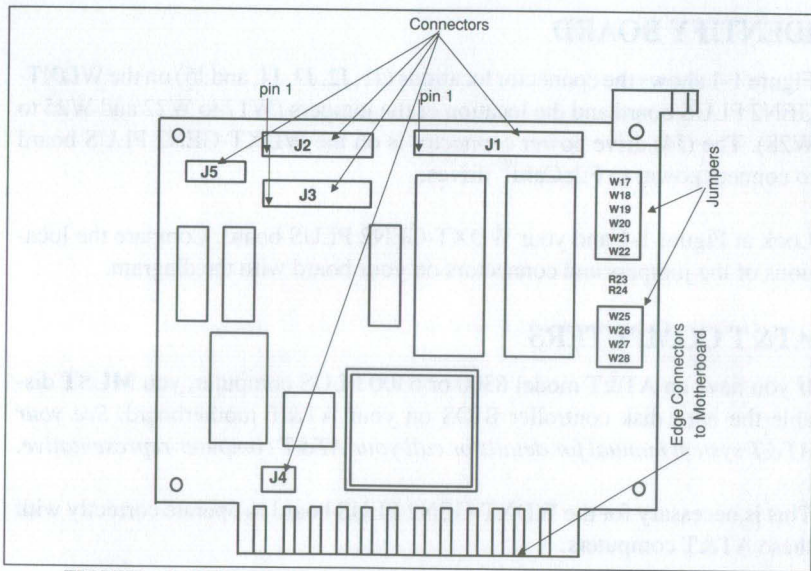
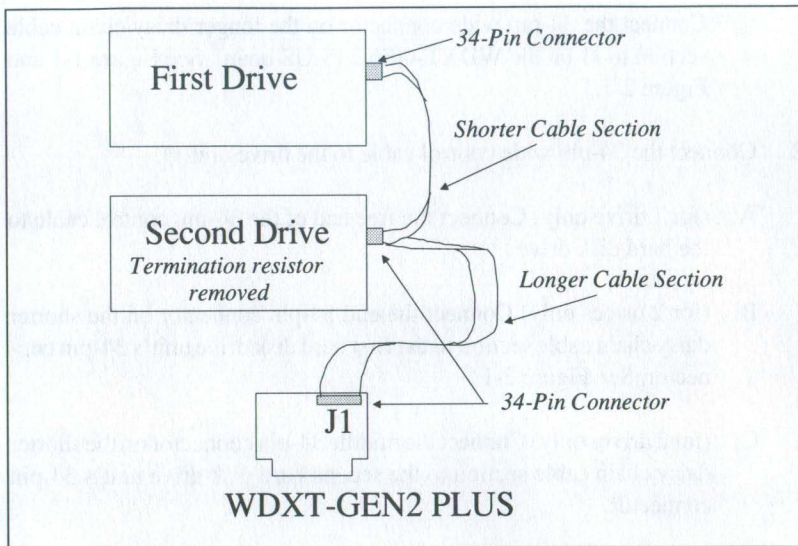

FIGURE 1-1. WDXT-GEN2 PLUS CONNECTOR&JUMPER LOCATIONS
FIGURE 2-1. DAISY CHAIN CABLE CONNECTIONS
Figure 1-1 shows the connector locations (J1, J2, J3, J4, and J5) on the WDXT-GEN2 PLUS board and the location of the jumpers (W17 to W22 and W25 to W28). The (J4) drive power connector is on the WDXT-GEN2 PLUS board to connect power to FileCard[®] drives.
Look at Figure 1-1 and your WDXT-GEN2 PLUS board. Compare the locations of the jumpers and connectors on your board with the diagram.
- A. (for 1 drive only) Connect the 34-pin (wide control cable) connector to J1 on the controller board. Attach Pin 1 of the cable connector to Pin 1 on the controller board. See Figure 1-1 on page 1-4.
Connect the 34-pin wide connector on the longer daisy chain cable section to J1 on the WDXT-GEN2 PLUS board. See Figure 1-1 and Figure 2-1.
- B. (for 2 drives only) Connect the end 34-pin connector on the shorter daisy chain cable section to the first hard disk drive unit's 34-pin connector. See Figure 2-1.
- A. Connect the 20-pin data cable from the first drive to J2 on the controller board. Attach Pin 1 on the cable to Pin 1 on the controller board. See Figure 1-1 on page 1-4.
- B. (for 2 drives only) If you install a second hard disk drive, connect the second 20-pin data cable from the second drive to J3 on the controller board. See Figure 1-1 on page 1-4.